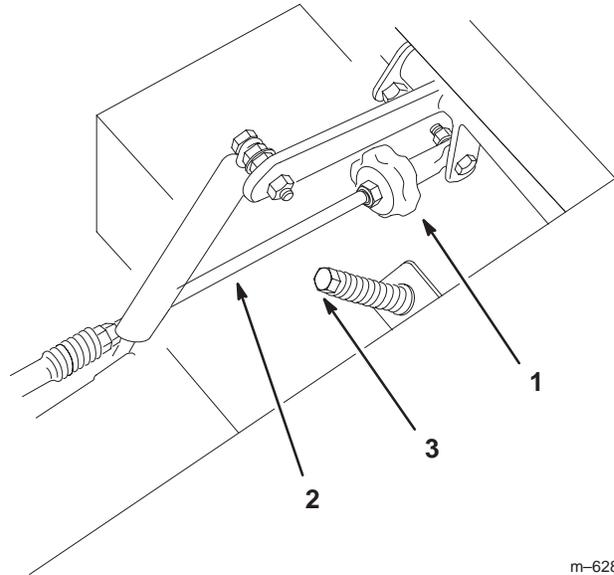

Figure 46
2. Adjust pump rod length by rotating the knob, in the appropriate direction, until the wheel is still or slightly creeping in reverse (Fig. 46).